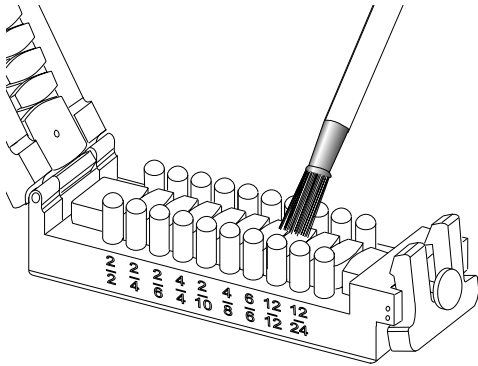

Figure 25
- Use the brush provided with the tool to remove dust or fragments of ribbon matrix from the top and bottom halves of the tool (Figure 25).